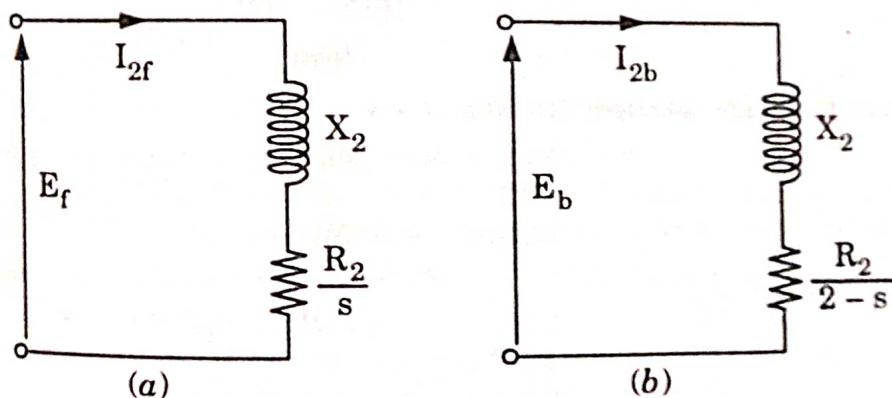

Fig. 5.3.4. Rotor equivalent circuits (a) For forward rotating flux wave and (b) For backward rotating flux wave.
- However, when the rotor rotates, the impedances of the rotor circuits shown in Fig. 5.3.4 are unequal and the rotor current  $I_{2b}$  is greater than the rotor current  $I_{2f}$ .